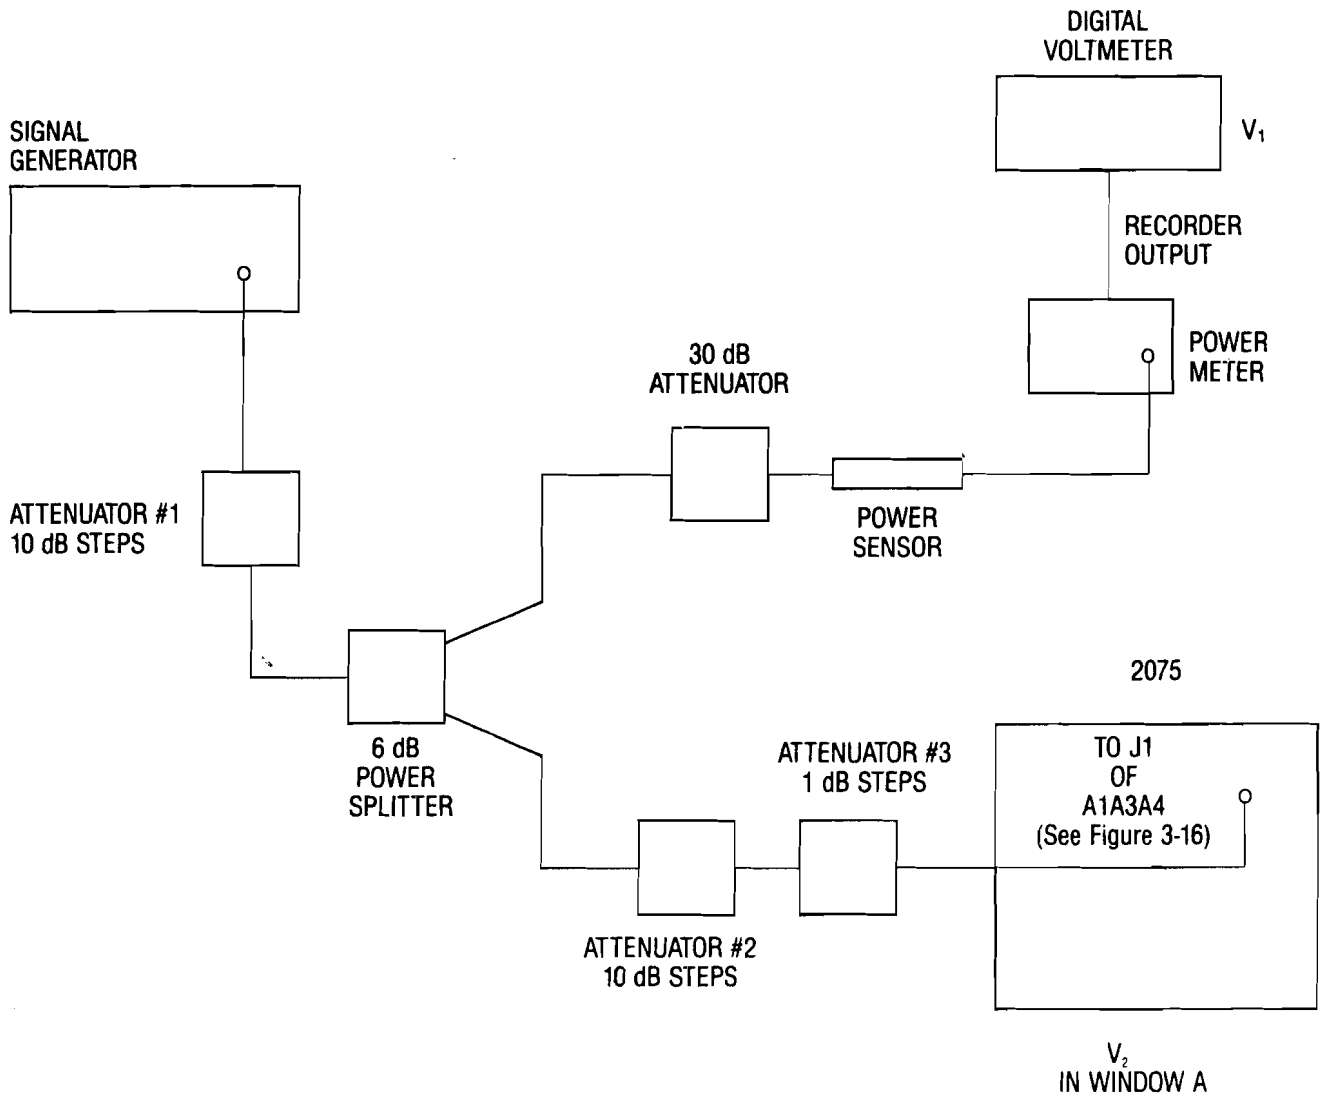

Figure 3-15. FINAL DETECTOR LINEARITY AND SLOPE SETUP
9. Set up the test equipment as shown in Figure 3-15 and allow it to warm up for at least 30 minutes.